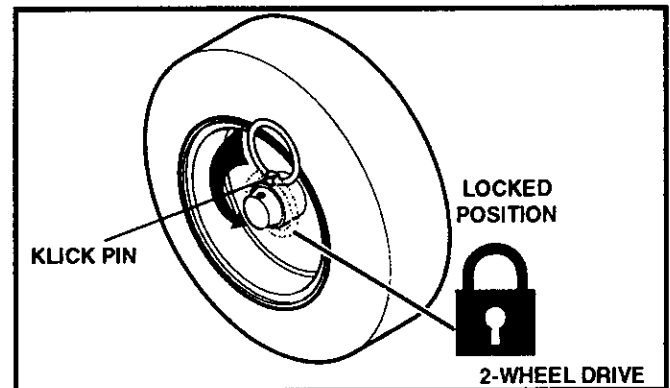

FIG. 5A
- The left hand wheel is secured to the axle with a klick pin (See FIG. 5A). This unit was shipped with this klick pin in the locked (through wheel hole) position.